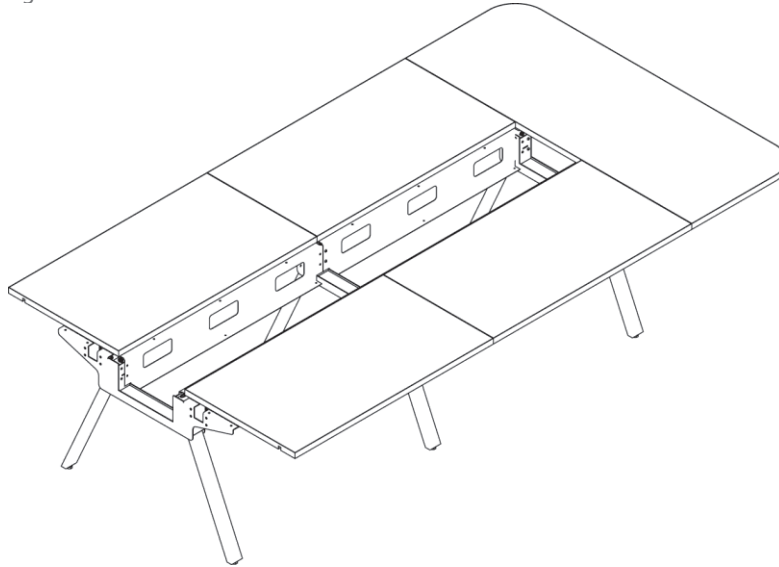

Figure 6.1c
3. Repeat and attach next pair of desksurfaces, if necessary (see figure 6.1c).